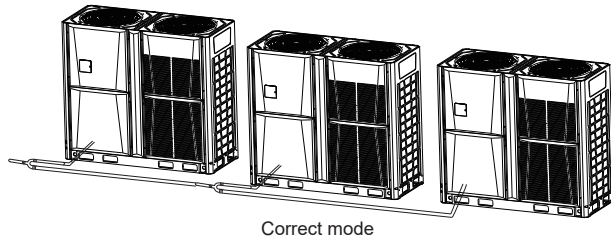
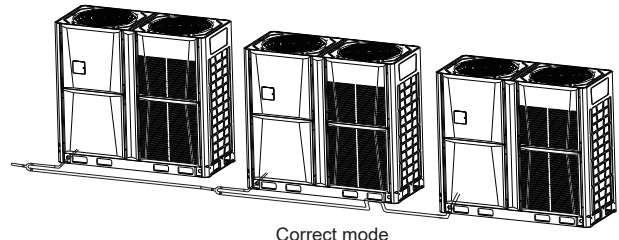
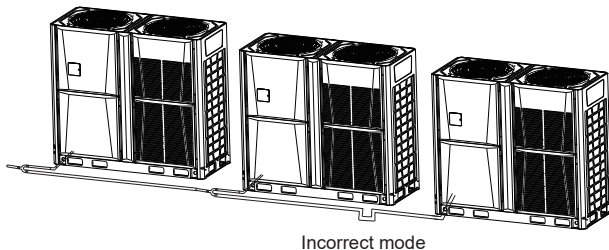

Fig. 4.6 Mode 1
Fig. 4.7 Mode 2
Fig. 4.8 Mode 3
- 1) Tubes for outdoor units must be horizontally arranged (Fig. 4.6 and Fig. 4.7), and no sagging is permitted in the middle section, as shown in Fig. 4.8.